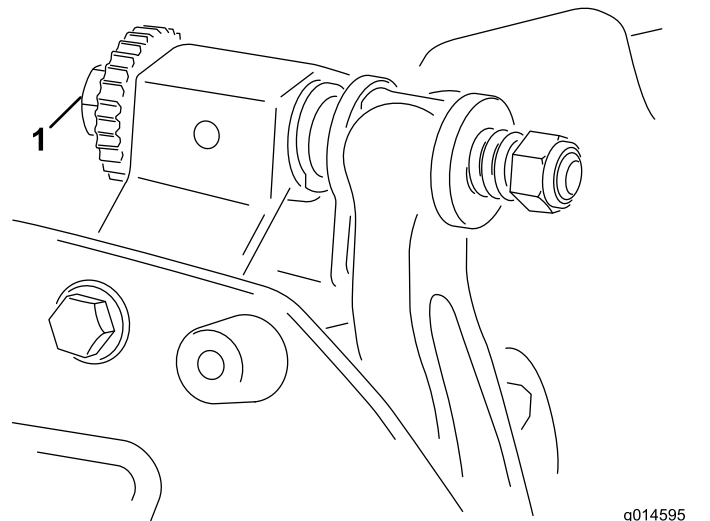

Figure 6
- A. Turn the bedbar adjusting screws clockwise (Figure 6), 1 click at a time, until you feel and hear light contact.
6. Turn the right bedbar adjusting screw (Figure 6) until you feel light pressure on the shim when sliding it side-to-side. Remove the shim.